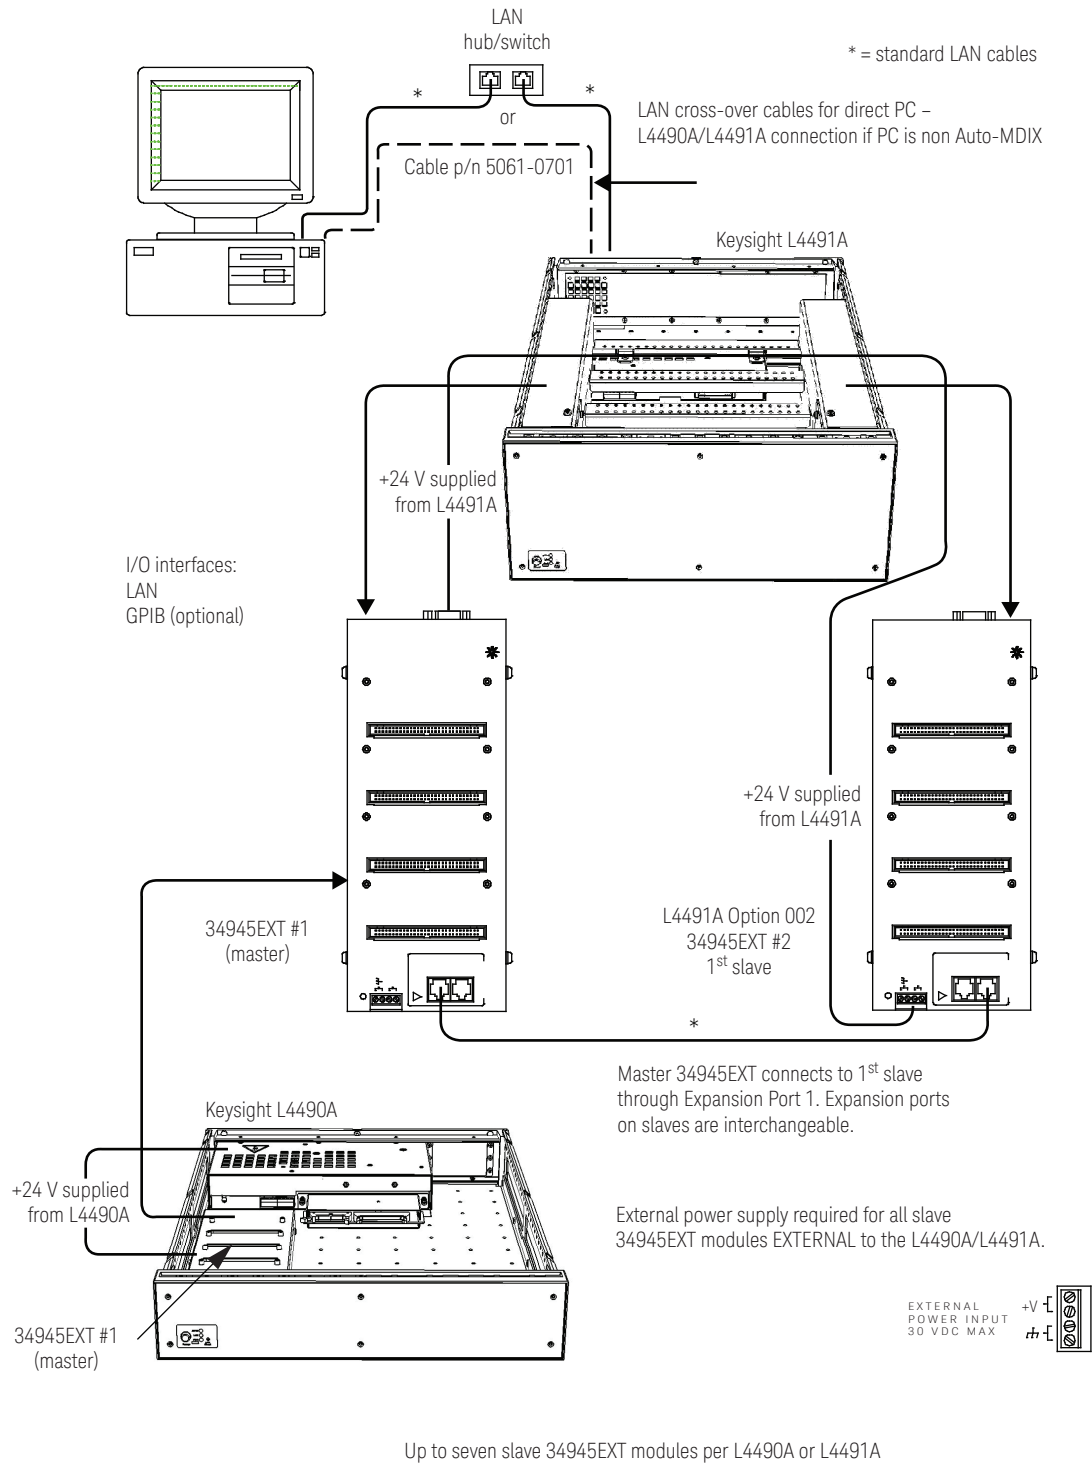

Figure 3. L4490A and L4491A internal configuration and typical connections
The internal configuration and typical system connections are shown in Figure 3.
- **Option 002:** Adds an additional 34945EXT module internal to the L4491A chassis (Figure 3).